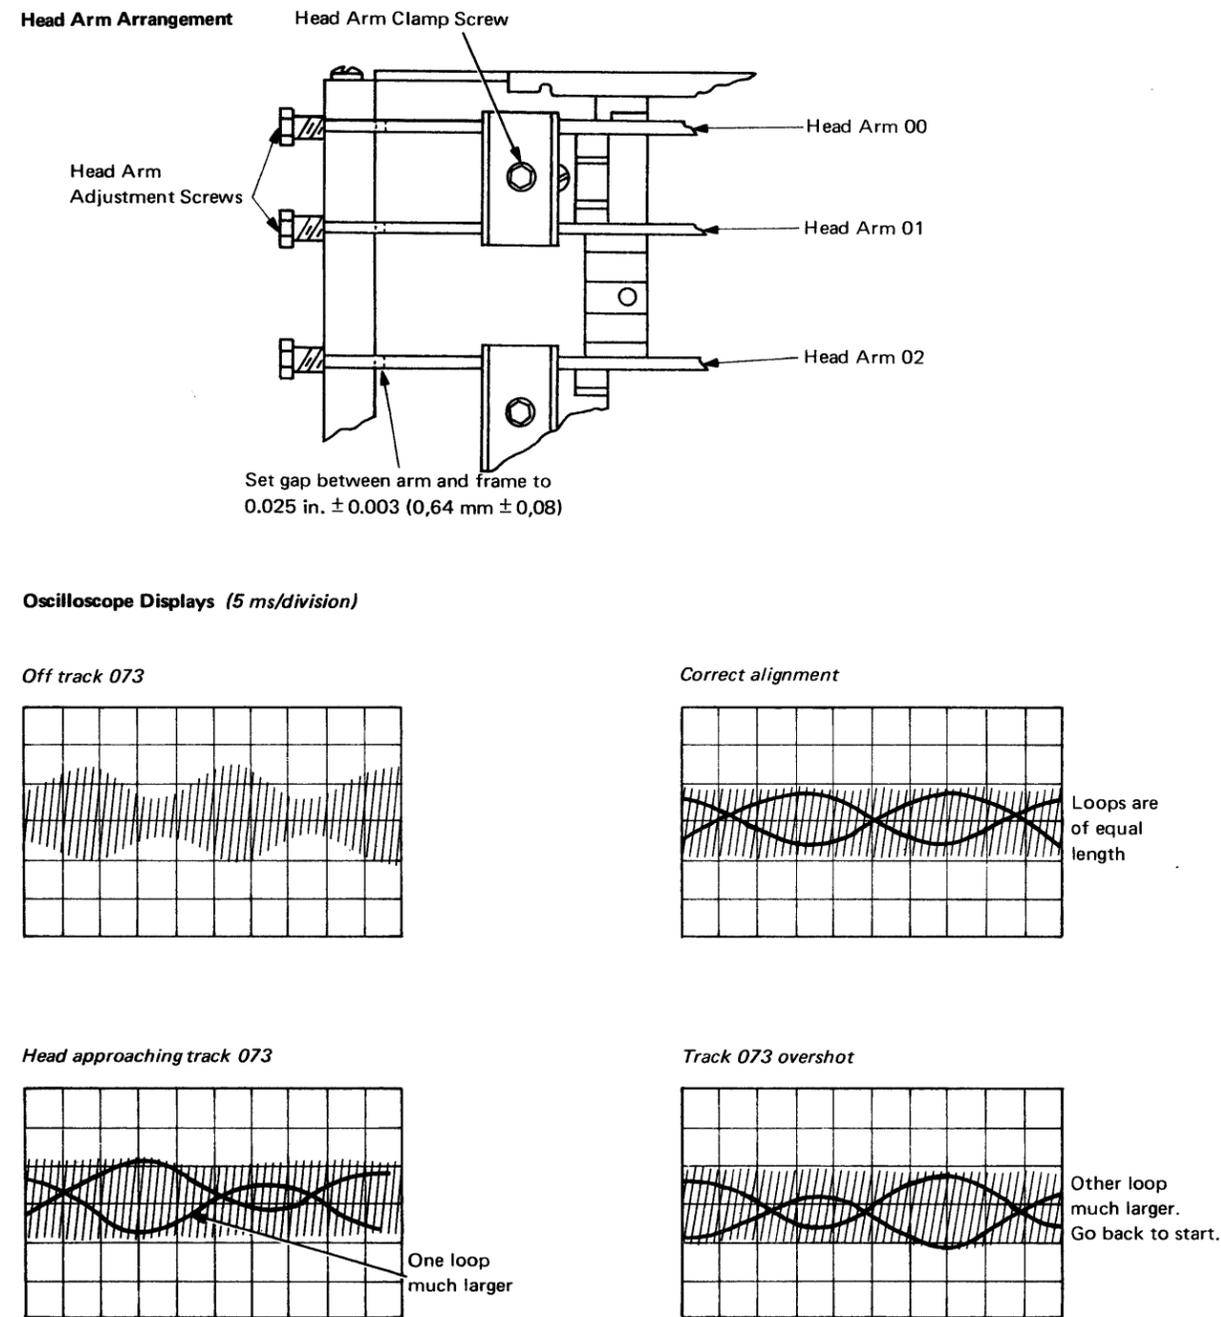

Figure 2-36. Head Arm Alignment, using CE Cartridge Track 073 [07559]
9. Slacken clamp screw of the upper head arms. Turn back, by *one-quarter of a turn*, the adjustment screws of the two upper head arms. (Figure 2-36).
11. Screw in on the adjustment screw of head arm 00; as the R/W head approaches track 073, the oscilloscope display loops appear (see Figure 2-36). Continue to screw in carefully until the loops are similar in size, 3.8 to 4.2 divisions in length. Use the horizontal sweep control to place the two loops across eight divisions.
2. Insert a 0.025 in. (0,64 mm) feeler gage between rear of arms and carriage casting (see Figure 2-36), then tighten the clamp screw to 4 lb in. (4,6 kg cm) with torque wrench, part 2597969, and 6-flute adapter, part 2597971.
5. Take off appropriate head arm clamp (see Figure 2-36).